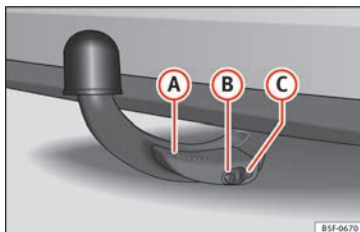

Fig. 239 Detachable ball properly attached.
- Lever ① » Fig. 239 is fully raised.
- The release bolt ② » Fig. 239 is sticking fully out (the red and green part is visible).
- Cover ③ » Fig. 239 is placed over the lock.